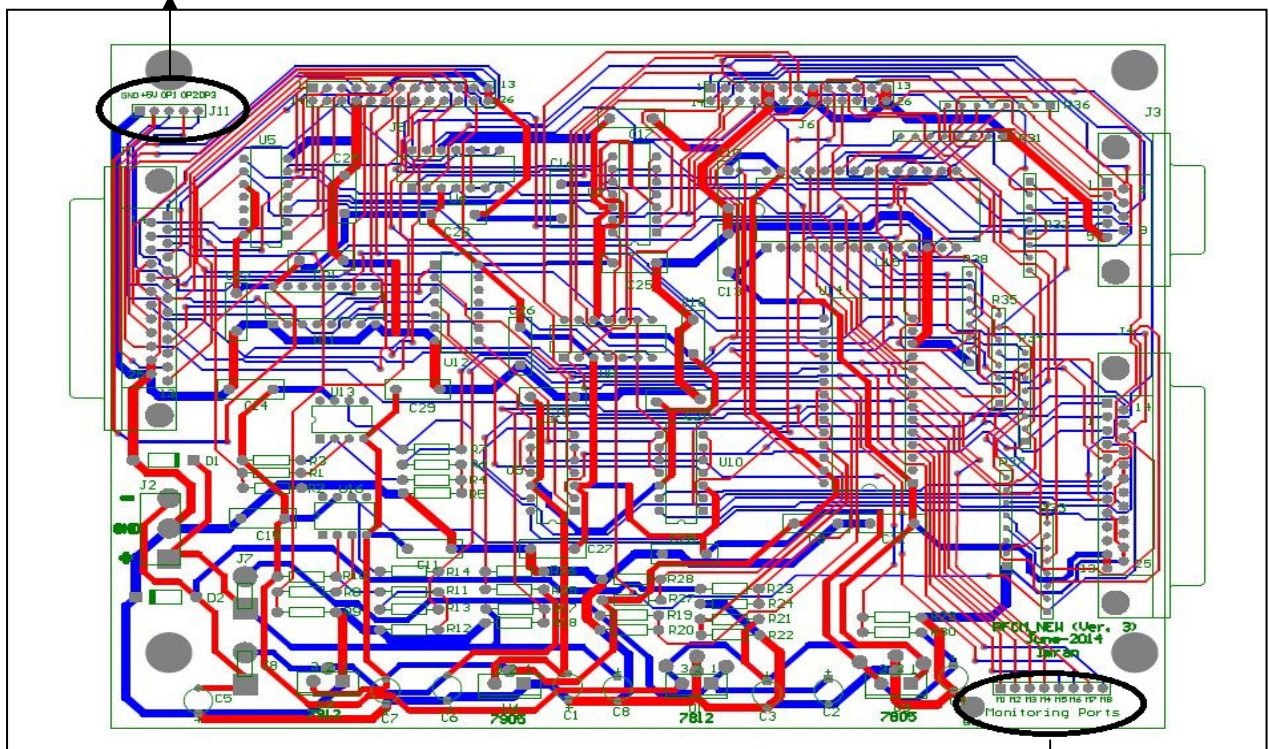

Fig.6 PCB layout of RFCM Card Ver.3.
8. Figure 6. PCB Layout of RFCM card Ver.3.....	Page 14
The PCB was fabricated and then the card was assembled and tested thoroughly in lab for all the functionalities. It was found to work satisfactorily for all the GMRT front end systems, both old as well as upgraded. Fig. 6 shows the PCB layout of RFCM card Ver.3 and fig. 7 (a & b) shows the assembled RFCM Card Ver.3 along with the additional hardware added to the card.